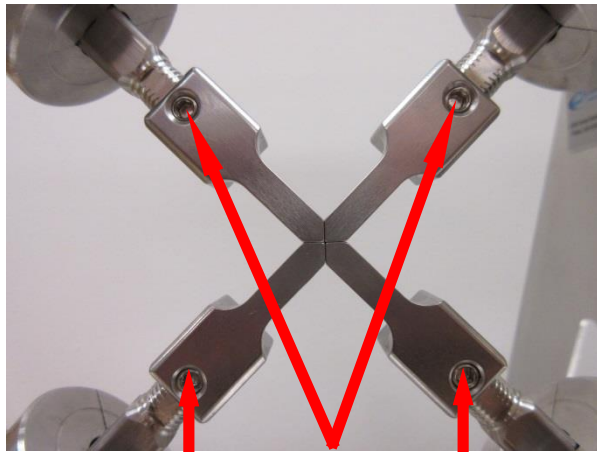
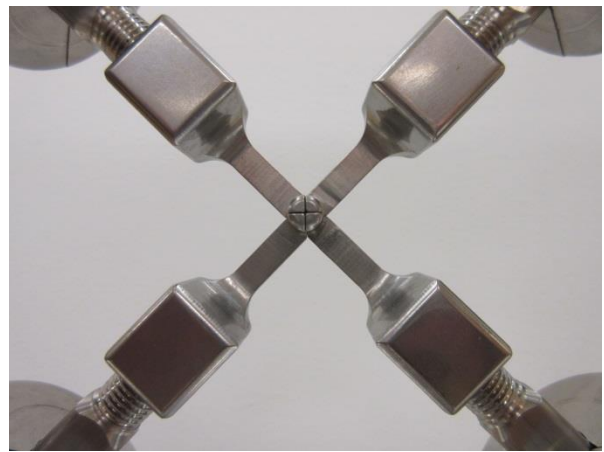

Figure 1
Figure 2
- Break loose the set screws on all four (4) jaws using a 1/8" hex wrench. (**Figure 1**)
- Adjust the jaws by letting all four (4) jaws come together (they will somewhat self-align) twisting the jaw slightly by hand or using an 11/16 open end wrench will ensure that the jaws are properly seated together. (**Figure 2**)
- Once aligned use the 1/8" hex wrench to tighten all four (4) set screws in the jaws. (**Figure 1**)
- The jaws should form a tight circle when properly aligned, no gaps between jaws. (**See figure 2**)
- Place the end of the tubing to be expanded over the ends of ***all four (4)*** expander jaws to the depth needed to allow the barb to be inserted properly.
- Remove all four (4) set screws on the jaws using a 1/8" hex wrench. **(Figure 1)**
- Ensure that the jaws are aligned properly, as shown in **Figure 1 & 2**. Using a 1/8" hex wrench, tighten the set screws on each jaw after you have the jaws properly aligned. (**Figure 2**)